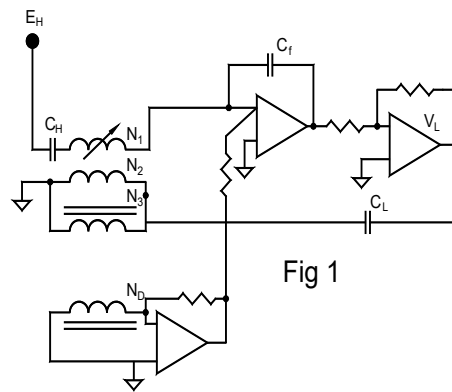

Fig 1
**Operating Principle:** A simplified schematic of the current comparator based voltage divider is shown in Figure 1. The current in the low-loss high-voltage capacitor ( $C_H$ ) is compared, using the current comparator, with the current obtained by applying the output voltage  $V_L$  to a stable low-loss standard capacitor ( $C_L$ ).